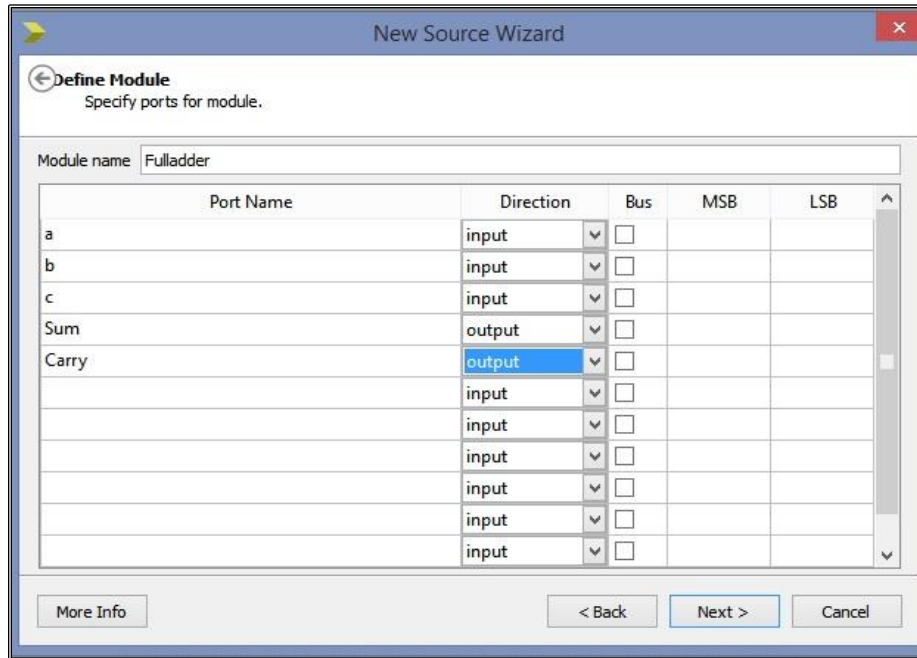

Fig 3.5: Module Definition
6. In the **Define Module** page, enter the port information for the “Fulladder” as follows (Fig 3.5):